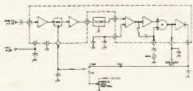

Fig. 3—S.s.b./c.w. i.f. block diagram
(2) Ref. Figs. 3, 4 and 5. The positive-going pulse on the C₀ rail causes the 3 x MC790P ripple carry counter to be set to zero. Now the dit-dah generator receives an input from the dit rail of the diode decoding matrix.
DAH-DIT GENERATOR FIG. 3.
For s.s.b./c.w. operation, refer to the block diagram of Fig. 3. A b.f.o. signal of 25 mV. r.m.s. or greater is fed into the balanced mixer at pin 6, causing the mixer to act as a product detector. The peak detector generates an a.g.c. voltage derived from the audio fed to it from the product detector. This voltage is fed back to the a.g.c. section through the RC network.